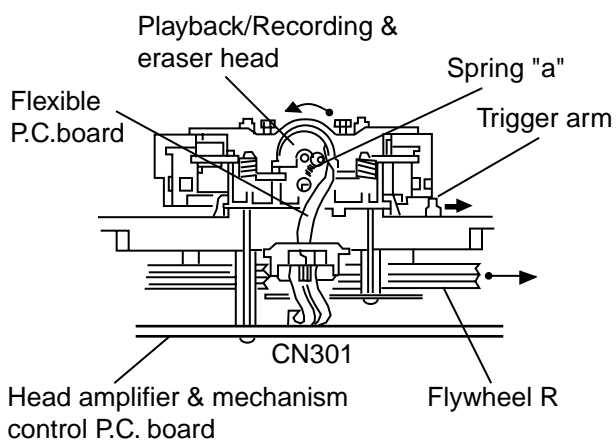
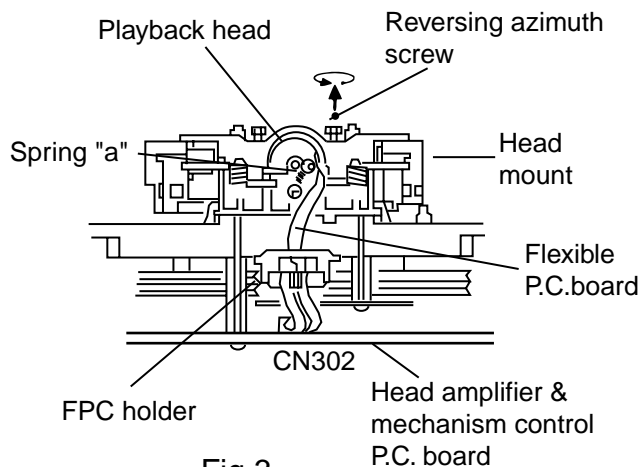

Fig.2 (Mechanism A side)
Fig.3 (Mechanism B side)
2. When the flywheel R is rotated in counterclockwise direction, the playback head will be turned in counterclockwise direction from the position in Fig.2 to that in Fig.3.
### ● Reassembling the playback, recording and eraser heads (See Fig.2,3)
1. Reassemble the playback head from the front of the head mount to the position as shown in Fig.3.
4. Attach the flexible P.C.board to the chassis base, and fix it with the FPC holder as shown in Fig.3.